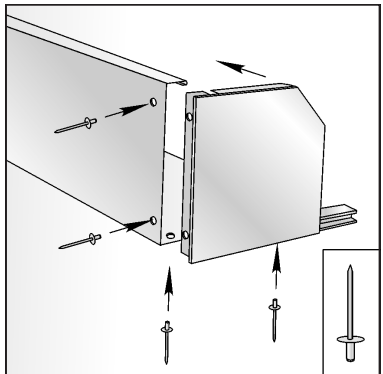

Fig. 20
- install $\varnothing 4 \times 10$ aluminium rivets and rivet the rear panel of the shutter box with the end cap (Fig. 20);